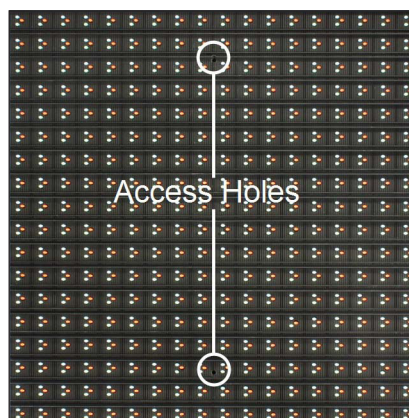

Figure 7: Module Access Holes
1. With one hand on the module face, insert the $\frac{1}{8}$ " hex wrench into the bottom access hole. Refer to **Figure 7**.